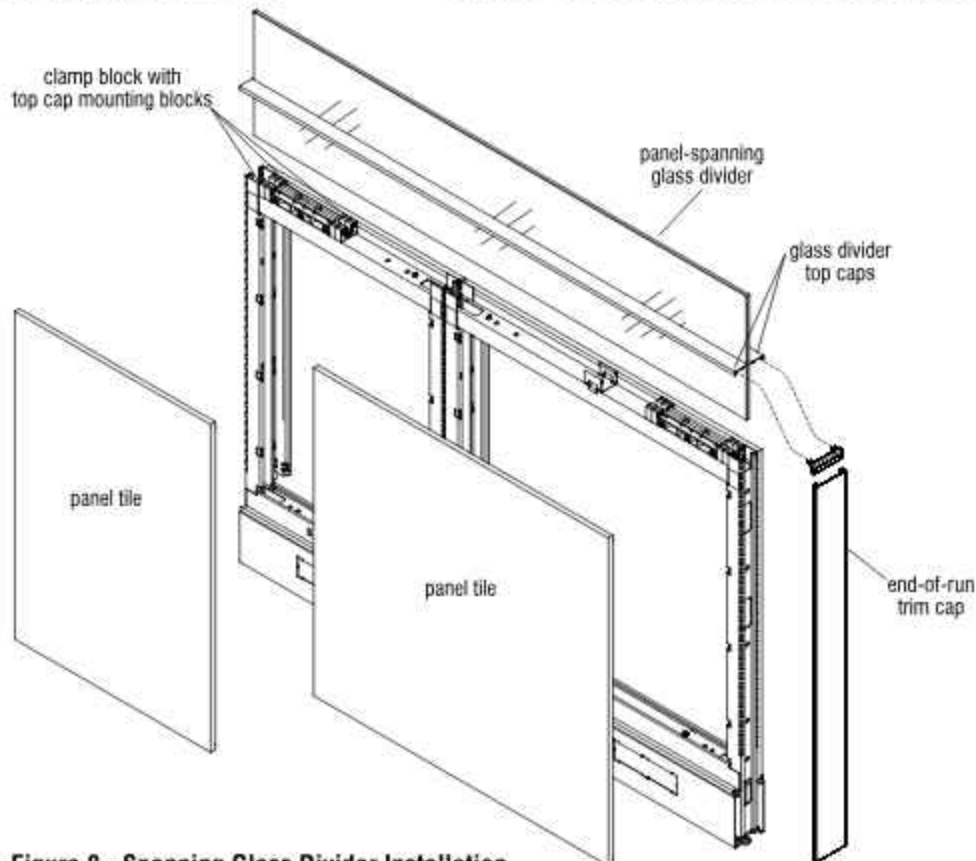

Figure 8 - Spanning Glass Divider Installation
**Note:** For installation of "panel-spanning glass dividers" (one glass divider over two panel frames) see Figure 8 instructions next page.
**Note:** Panel-spanning glass dividers are to be installed over adjoining panel frames as if they are installed over a single panel frame. A clamp block assembly with top cap mounting blocks is required at each end of the glass divider, but not in the center of the glass (Figure 8)